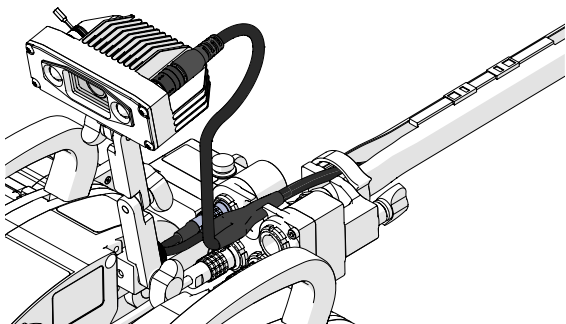

Fig. 27 - Route crawler powered camera cable into cable management
4. Route the crawler powered camera cable (Fig. 27) into the crawler's cable management (see crawler's user manual for details).